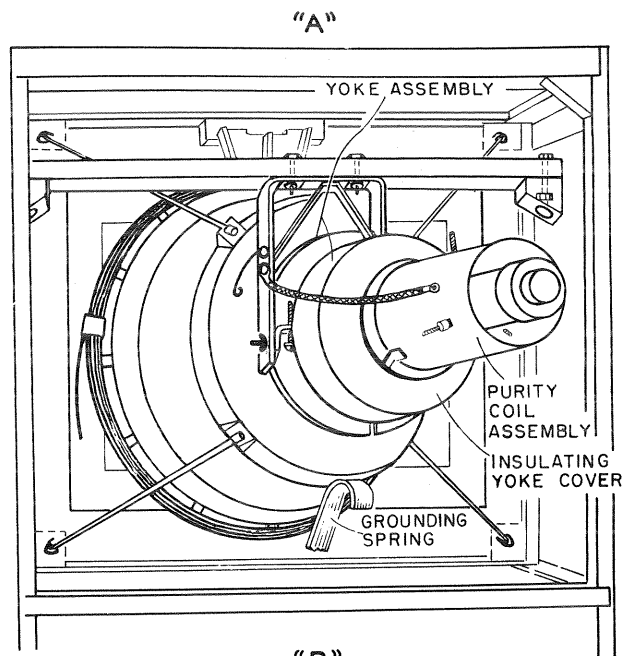

Figure 11—Yoke and Purity Coil Assemblies
**DEFLECTION COMPONENT ASSEMBLY.**—Mount the yoke assembly on the cross-bar previously removed from the cabinet, referring to figure 11 for detail of mounting. Install the cross-bar and yoke assembly as a unit. This is performed from the rear of the cabinet. Slip the yoke, with the insulated cover to the rear, over the neck of the kinescope and carefully slide it forward into position. Be sure the grounding springs are making contact with the kinescope shield. Fasten the cross-bar in place with the screws provided. (Refer to figure 11.)
Slip the purity coil and neck shield assembly onto the kinescope neck with the open end of the shield toward the cabinet rear. The access hole to the assembly mounting screw should be at the left, with the beam positioning magnet for the blue gun at the top, as shown in figures 11 and 12. Slide the assembly forward on the neck of the kinescope until the rear edge of the shield bracket is approximately  $\frac{1}{4}$  inch beyond the front edge of the kinescope socket. Position the neck shield assembly to make the painted reference marks on the neck-shield bracket and on the kinescope neck coincide. (Refer to figure 11B.) Tighten the assembly on the kinescope neck. Plug the ground lead into the aperture at the left side of the neck shield.